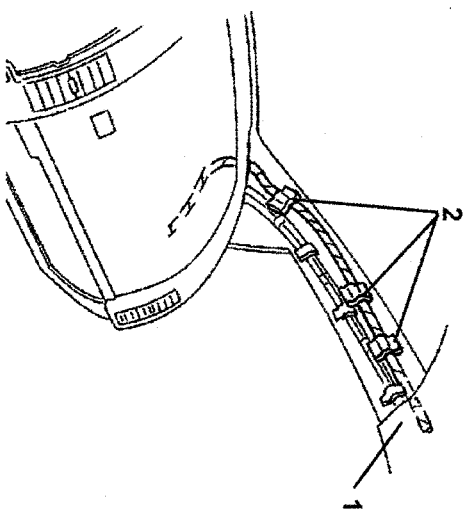

FIGURE 37
- 7.) CONTINUE ROUTING THE DVD MAIN WIRING HARNESS FROM THE TOP OF THE A-PILLAR (1) DOWN TO THE GLOVE BOX AREA AND SECURE USING THREE PIECES OF FOAM TAPE (2). (SEE FIGURE 37)